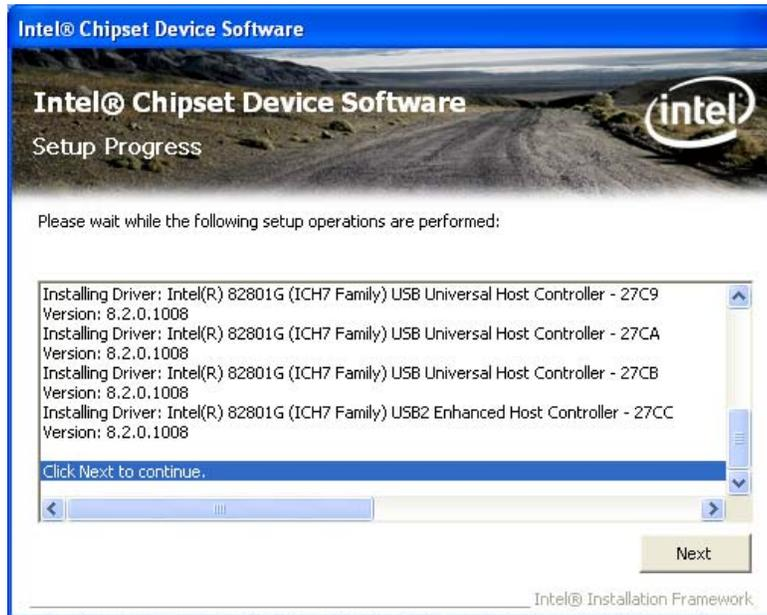

Figure 7-5: Chipset Driver Setup Operations
Step 12: **Setup Operations** are performed as shown in **Figure 7-5**.